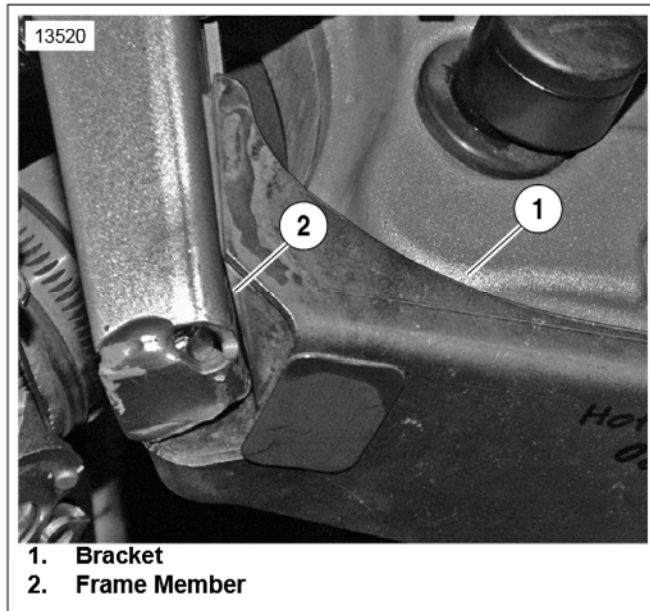

Figure 3. Bracket Properly Seated
5. See Figure 3. Verify back of bracket (1) is properly seated against frame member (2) as shown.